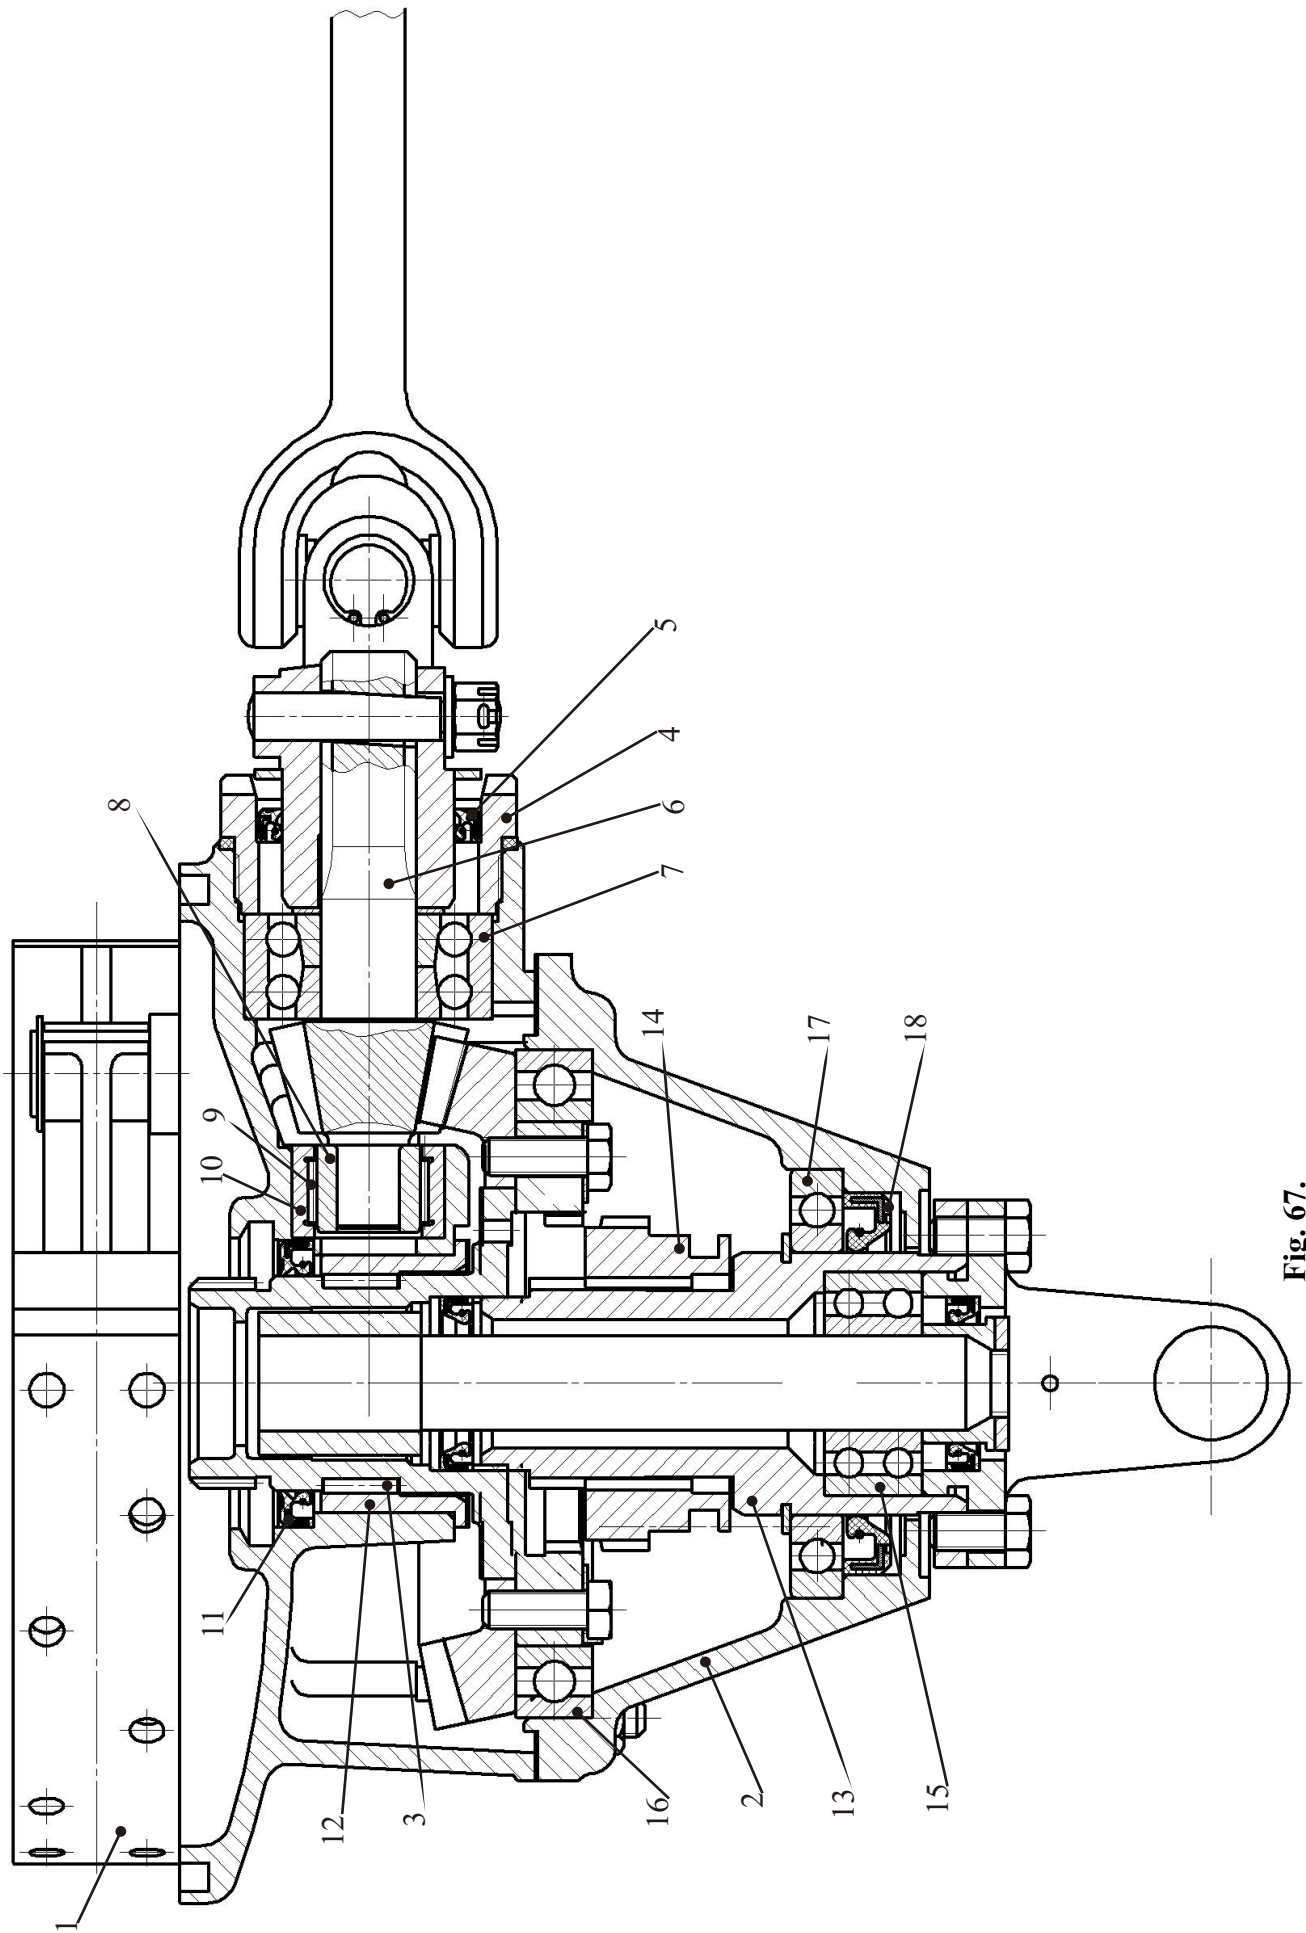

Fig. 67.
To dismantle the final drive (Fig. 67):
- Provide marks on the brake shoes to avoid installing them in a wrong position whilst reassembling. Remove the brake shoes (Fig. 67, Pos. 1);
- Unscrew the nuts fastening the casing cover, remove the washers and by slightly knocking against the end of the driven gear hub, remove the cover together with gasket and the driven bevel gear in assembly with the hub (Fig. 67, Pos. 2);
- Remove the rollers from the hub groove (45 pieces); (Fig.67, Pos.3);
- Unscrew the nut fastening the pinion gear bearing by turning it clockwise (left-hand thread). (Fig. 67. Pos.4)
- Using the mandrel press off the collar from the nut fastening the pinion gear bearing (Fig 67, Pos.5);
- Insert the wedge into the pinion gear shank slot, remove the pinion gear together with the radial-thrust ball bearing, remove the packing and the shim (Fig.67, Pos.6);
- Using a tool remove the radial thrust bearing 3086304 from the pinion gear shank (Fig. 67. Pos.7)
- Using tool 345-325-3 remove the internal cage of the roller bearing of the pinion. (Fig.67, Pos. 8)
- Take the needles out of the bearing on the pinion shank (Fig. 67, Pos. 9).
- Press off the external cage of the roller bearing of the pinion (Fig.67, Pos.10) using an appropriate tool.
- Press off the collar from the final drive case using a mandrel (Fig.67, Pos. 11)
- Press off the external cage of the roller bearing of the hub using an appropriate tool (Fig.67, Pos.12)
- Using an appropriate tool remove hub in assembly with the driven bevel gear from the bearing 1000822 (Fig.67. Pos. 13)
- Remove the drive shift sleeve in assembly with the fork from the splined hub (Fig. 67, Pos.14)
- Using an appropriate tool press off bearing 3056204 from the splined hub (Fig.67, Pos.15)
- Using an appropriate tool press off bearing 1000822 from the final drive cover (Fig. 67, Pos. 16)
- Using an appropriate tool press off bearing 7000111 from the final drive cover (Fig. 67, Pos. 17)
- Press out the collar from the final drive cover (Fig. 67, Pos. 18)